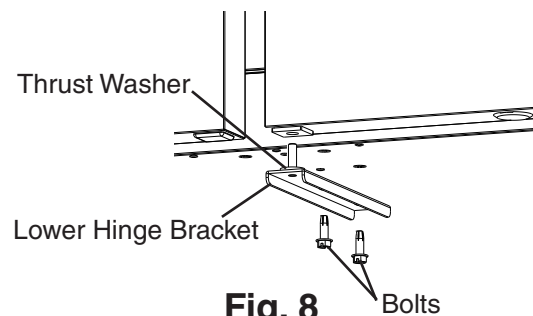

Fig. 8
- 6) Clear the foam from the lower hinge bracket mounting holes prior to securing lower hinge bracket in its new location. Install the lower hinge bracket in its new location. Be sure the lower hinge bracket is pushed all the way in and the thrust washer is in its original position. See Fig. 8.